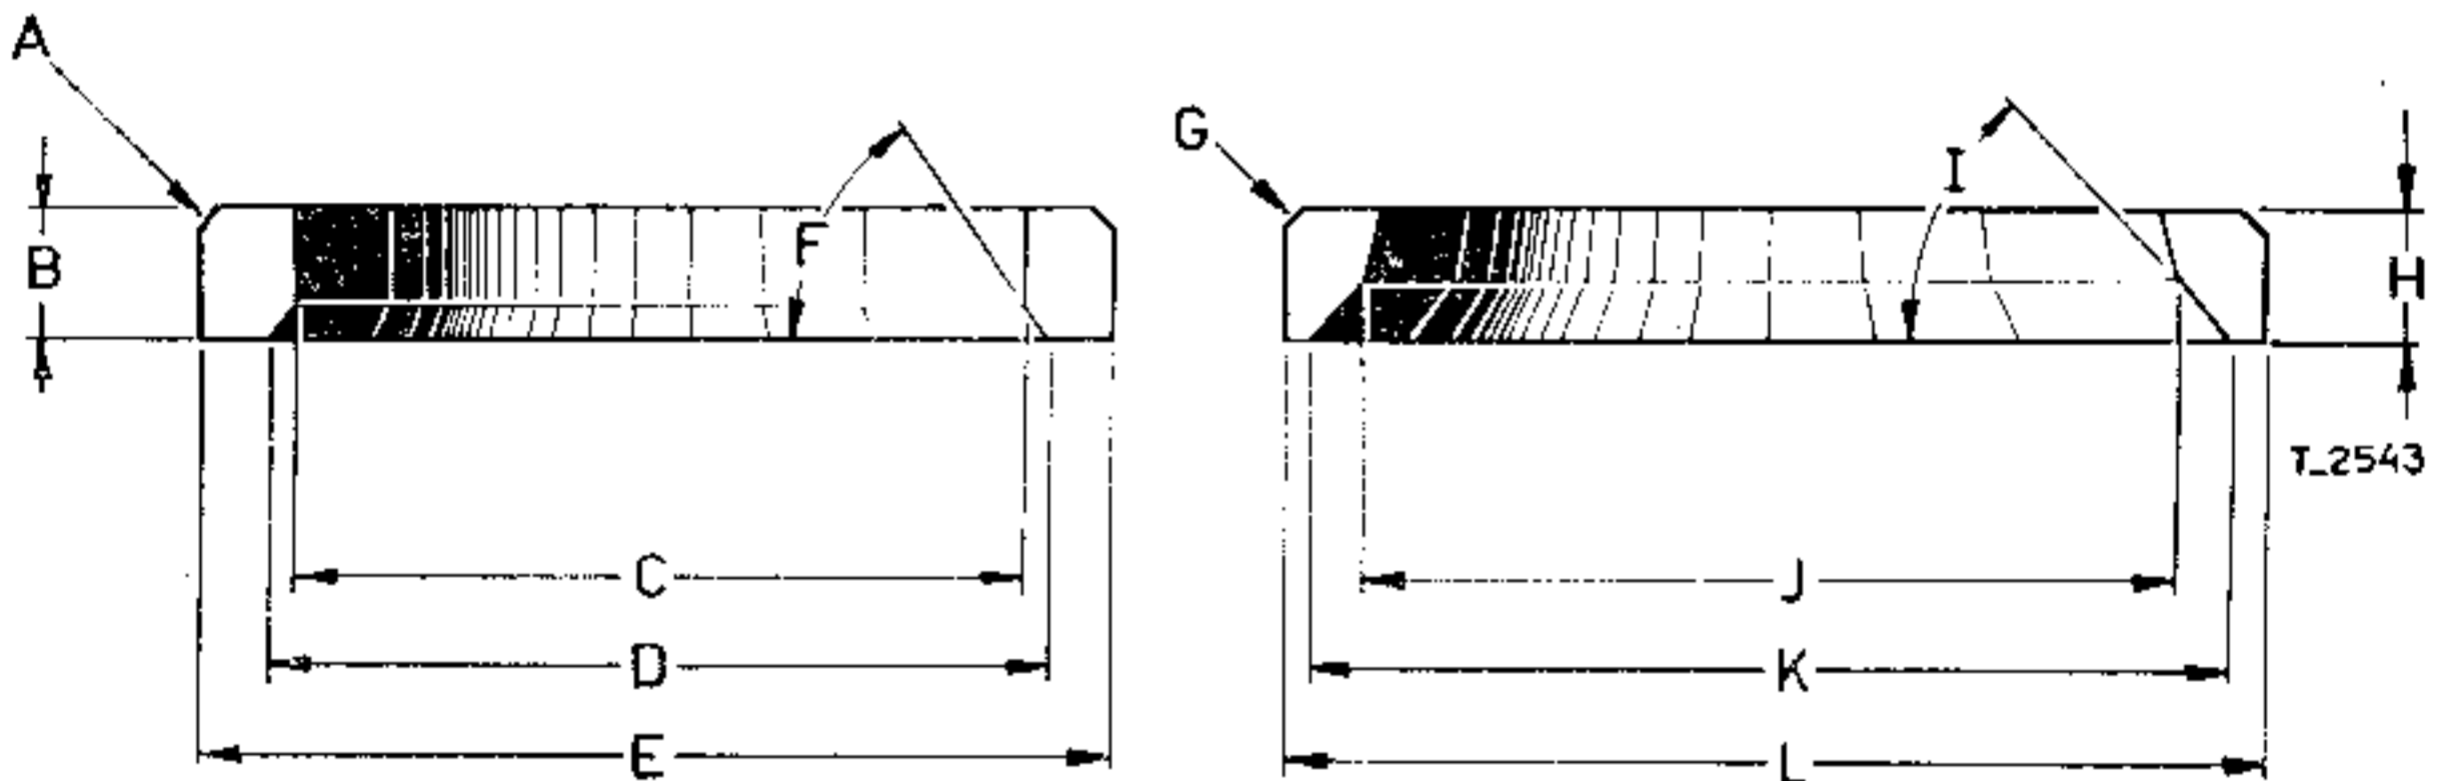

Fig. 20. Valve seats, machining dimensions
**Valve seats:** The valve seats are integral with the cylinder head. If it should be necessary during an engine overhaul to install valve-seat inserts, the cylinder head must be machined to the dimensions given in Fig. 20.